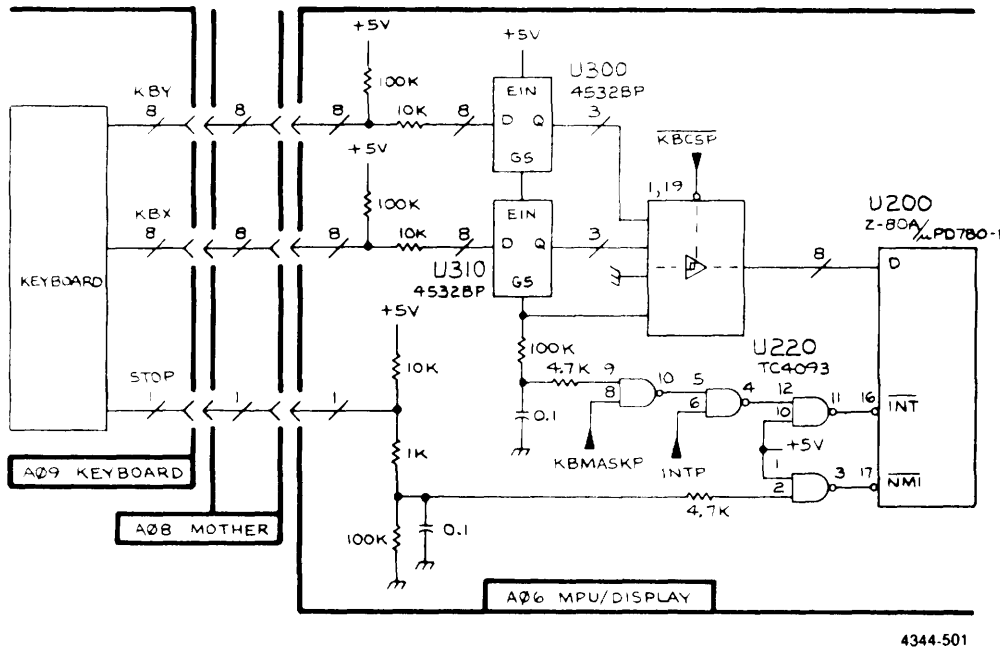

Figure 7-1. 318 Keyboard test schematic.
**Troubleshooting** - Refer to Figure 7-1. The keyboard generates an interrupt and sends a corresponding key code to the MPU when any key except the STOP key is pressed. The MPU reads the key code at  $E0_{hex}$  upon receiving the interrupt from the keyboard, and blinks the corresponding rectangle in the key array on the screen. This function also provides a check to see that each key (except the STOP key) is providing the correct key code to the MPU.